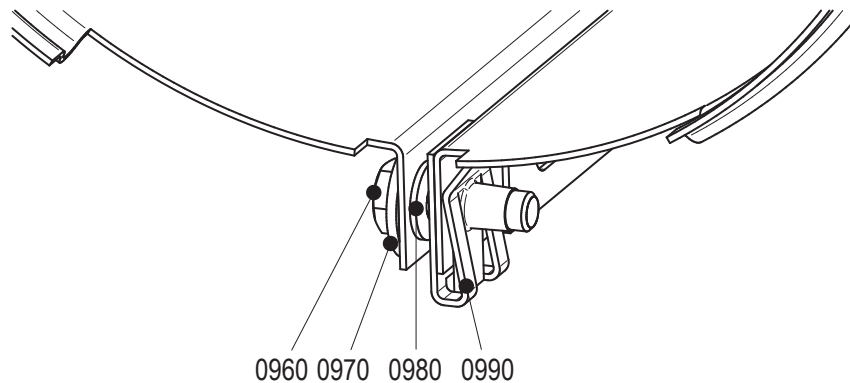

Figure 10: Fitting jacket.
- 1 Loosen bolts (0960). See figure 10.
3 Close the jacket and fit bolt (0960). See figure 10.
- 5 Close the jacket and fit a bolt (0230) and fit bolt (0960). See figure 10.